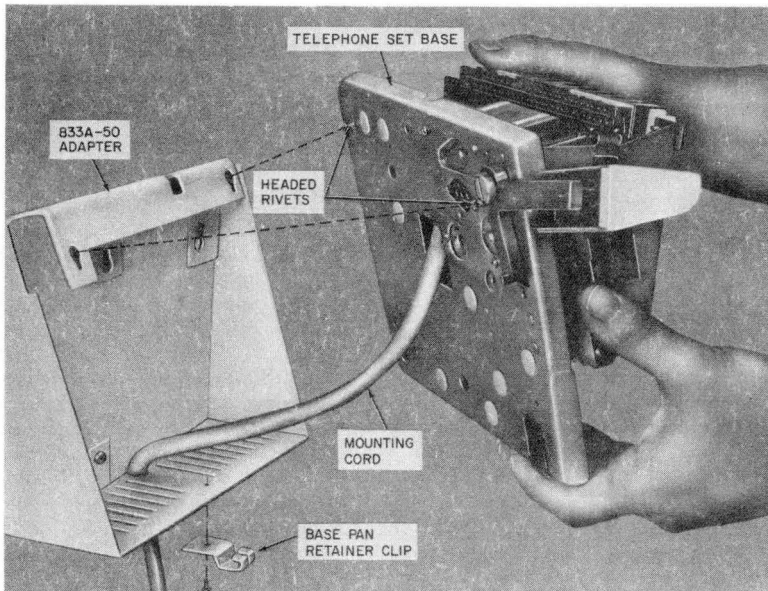

Fig. 4—Mounting Telephone Set Base onto 833A-50 Adapter
- (1) Mount the adapter to the wall or vertical surface as shown in Fig. 3, using appropriate fasteners (Section 080-720-105). If the mounting cord is to be dressed down the wall, it is necessary to pass the cord through the notch in the adapter before final attachment of the adapter to the wall (Fig. 4). If the cabling enters through the wall, the mounting cord may be contained within the adapter.
- (2) Remove faceplate and housing from telephone set.
- (3) Hang the telephone set on the adapter from the headed rivets that protrude from the base pan (Fig. 4).